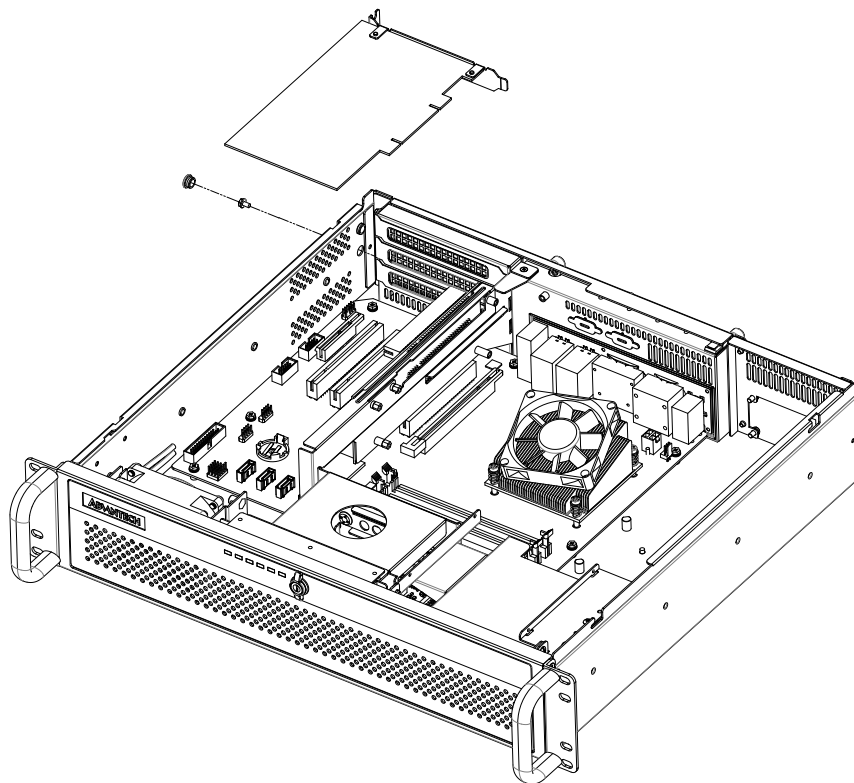

Figure 2.5 Installing Add-on Cards/ 安装附加卡 / 安裝附加卡
2. Remove the corresponding I/O bracket attached to the rear plate of the chassis. Insert an add-on card vertically into the proper slot on the riser card. For full-length cards, please make sure that the card bracket has been inserted properly and the other edge of the card has been inserted into the plastic guiding fillister. Then fasten the screws on the top of the I/O bracket. (see Figure 2.5)
2. 移除固定在机箱后面板的相应 I/O 支架。将附加卡垂直插入转接卡的相应插槽内。对于全长卡，请确认卡的另一端已插入塑胶导引槽。然后用螺丝将卡固定在 I/O 支架上（如图 2.5 所示）。